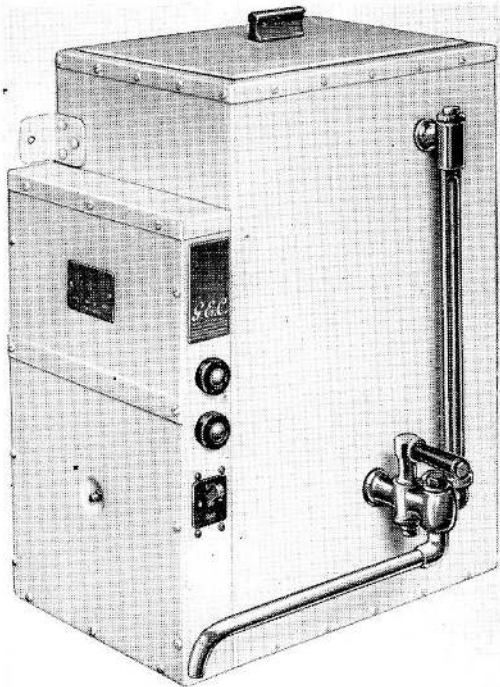

Fig. 1. Urn, external view
1. The main purpose of this urn an external view of which is shown in Fig. 1 is to boil water for beverage making. A loose container which fits inside the top of the urn is provided for boiling eggs. This urn is fitted in the galley of certain transport aircraft.